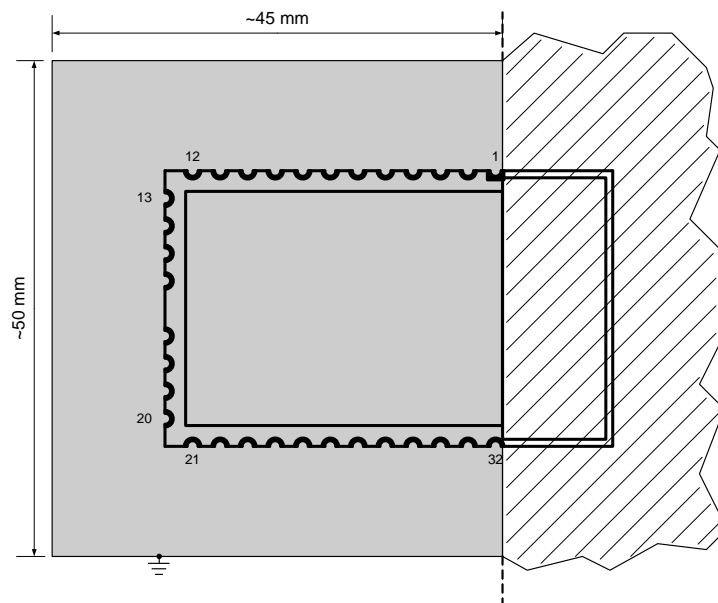

Figure 4-2: Recommended Environment
- As shown in Figure 4-2, the solid grey area must be a ground-plane on the Bottom Layer (or Layer 2 in a multi-layer structure) of the carrier board. Antenna matching and all other measurements were done with these dimensions.
- The hatched area shown in Figure 4-2 has to be free of material (e.g. PCB, metal, housing). If possible, the distance from the antenna area to any material should be at least  $\lambda/2$  see 3.